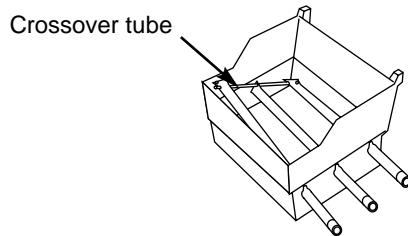

Figure 17
g) Lift and twist the burner assembly slightly, to separate the crossover tube from the burners. Figure 17. Remove the burners from the cooking box.